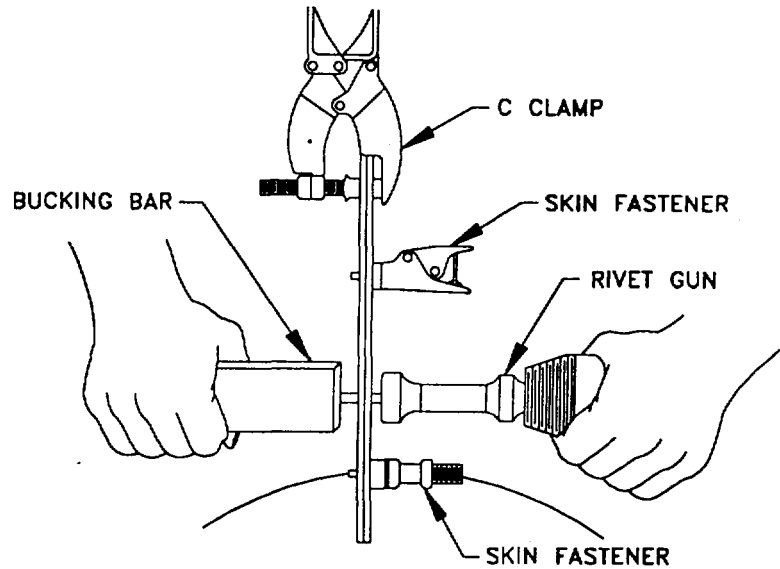

Figure 5-2. RIVET REPLACEMENT
b. Replacement. Replace rivets on MCPS components as shown in Figure 5-2, and described in the following paragraphs:
- (1) Check for evidence of loose or working rivets and mark all of those for replacement.